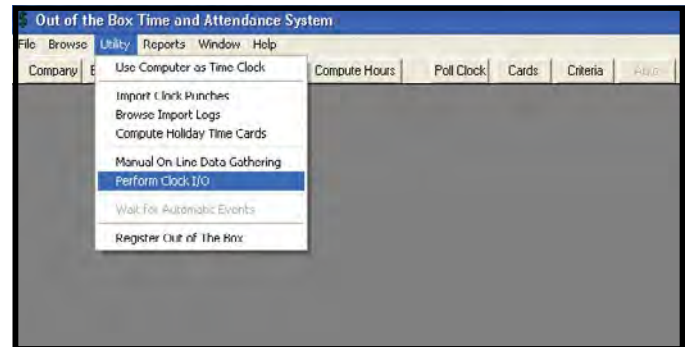

Figure 118. Out-of-the-Box™, Perform Clock I/O
- X. The communication settings must then be checked via the “Perform Clock I/O” screen. Begin by clicking “Utility” > “Perform Clock I/O” (see Figure 118).